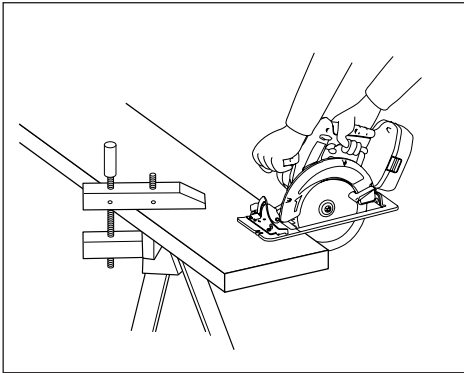
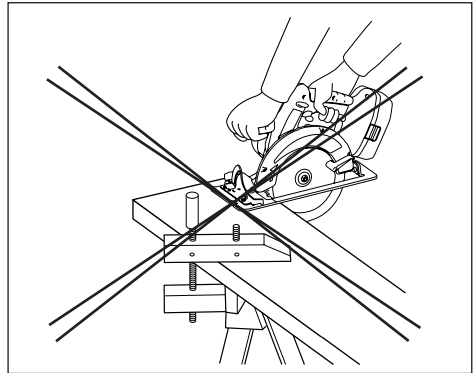

Fig. 12
Fig. 13
1. Place the wider part of the shoe on the part of the work piece which is solidly supported, (See Fig. 12) never on the section that will fall off when the cut is made. (See Fig.13)